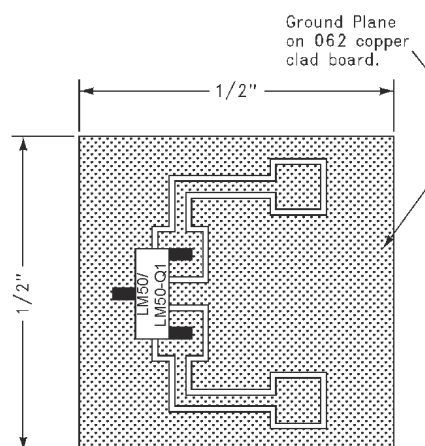

Figure 8-14. Printed-Circuit Board Used for Heat Sink to Generate Thermal Response Curves LM50 (Legacy Chip)
(1) Part soldered to 30 gauge wire.
(2) Heat sink used is 0.5inch, square printed-circuit board with 2oz foil; part attached as shown in Figure 8-14.